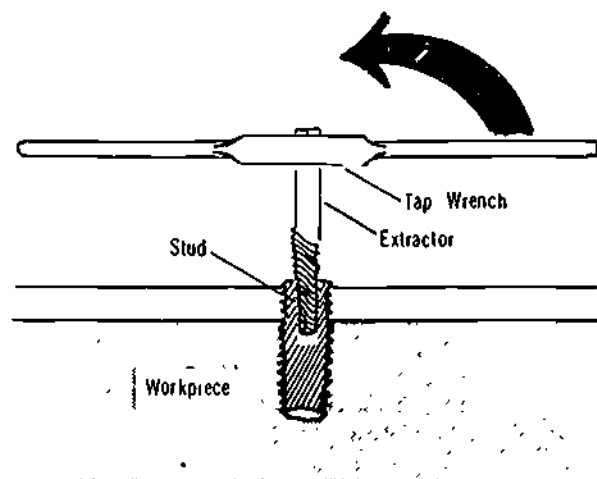

Figure 2-78. Removing a Broken Stud
- Step 5 Insert the extractor into the hole and turn it counter clockwise with a wrench under steady pressure until the broken part moves (Figure 2-78)